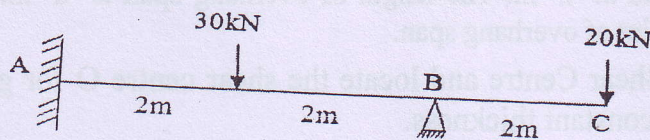

Figure 2
- Que. - 2 (A) What is moment-area method? Find the slope and deflection of a simply supported beam and cantilever beam carrying a (i) point load at the centre and (ii) uniformly distributed load over the entire length using moment-area method. 04
- (B) A simply supported beam is 6 m long and has a flexural stiffness of 3 MNm^2 . It carries a point load of 800 N at the middle. Calculate the deflection at the ends and middle with Conjugate Beam Method. 04
- (C) Analyse Beam as shown in figure 2 by using Consistent Deformation Method. 04